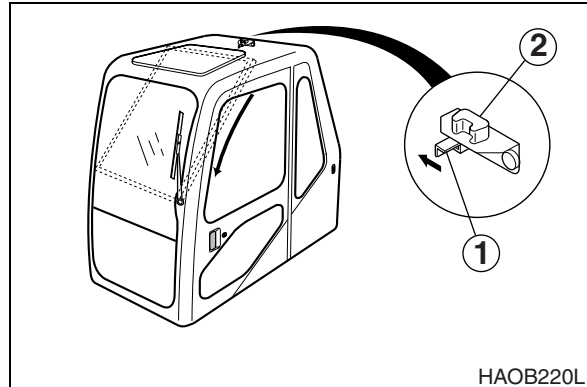

Figure 96
4. Holding upper handle of front window with right-hand, push release lever (1, Figure 96) (in direction of arrow) to unlock catch (2).